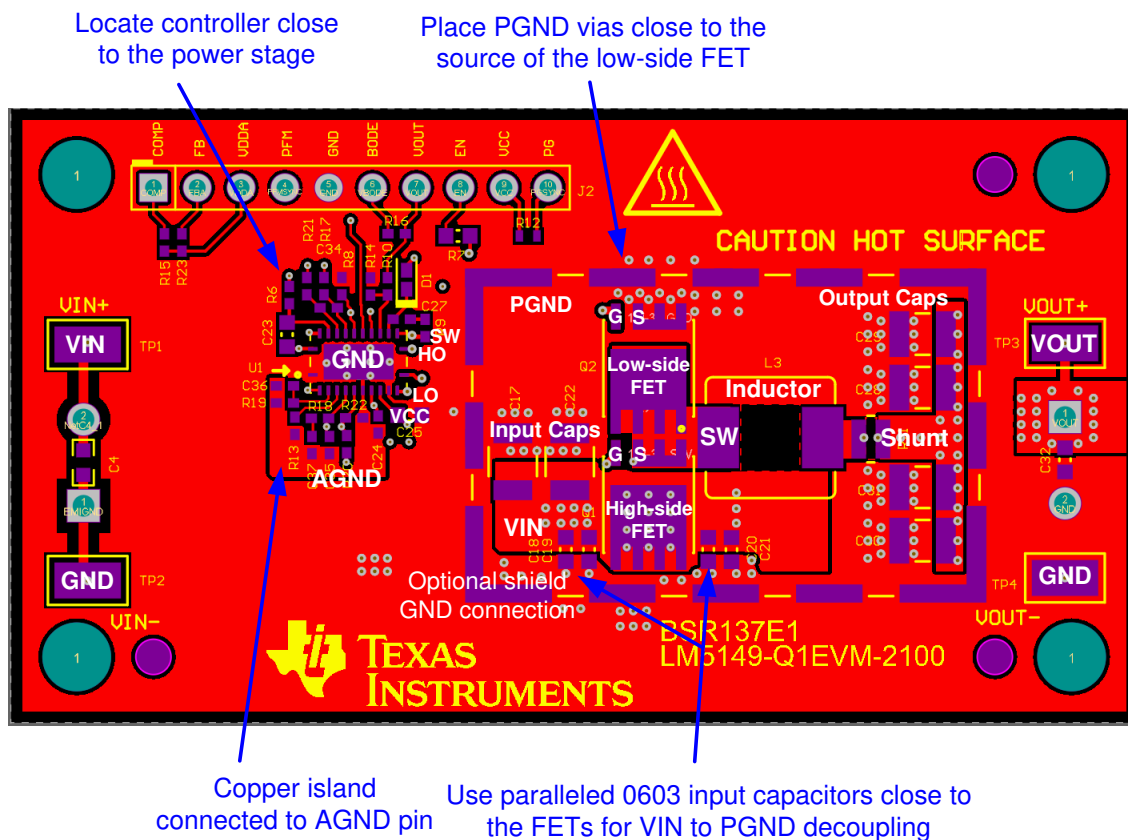

图 11-2. PCB Top Layer – High Density, Single-sided Design
- Connect AVSS to a quiet GND connection, further from IC if possible. Keep decoupling capacitor $C_{AEFVDDA}$ close to the AEFVDDA pin and AVSS GND connection. See capacitor C23 in Figure 11-2.
图 11-2 shows a single-sided layout of a synchronous buck regulator with discrete power MOSFETs, Q1 and Q2, in SON 5-mm × 6-mm case size. The power stage is surrounded by a GND pad geometry to connect an EMI shield if needed. The design uses layer 2 of the PCB as a power-loop return path directly underneath the top layer to create a low-area switching power loop of approximately 2 mm². This loop area, and hence parasitic inductance, must be as small as possible to minimize EMI as well as switch-node voltage overshoot and ringing.
- Make the ground connections to the LM25149 controller as shown in 图 11-2. Create a power ground directly connected to all high-power components and an analog ground plane for sensitive analog components. The analog ground plane for AGND and power ground plane for PGND must be connected at a single point directly under the IC – at the die attach pad (DAP).